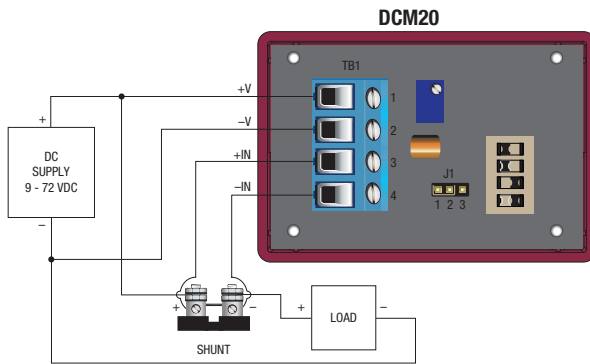

Figure 3. High-side current measurement, meter powered from DC line
- In figure 3, the current shunt is inserted into the load's positive supply line, which is known as high-side measurement. The DCM20 is also powered from this line. In this configuration the shorting block on jumper **J1** should be connected across pins J1-1 and J1-2. Because the meter is powered from the line being monitored, useful measurements can only be made on DC line voltages in the range of 9 - 72 VDC, as at lower voltages the meter will not be powered. In this configuration, the DCM20 measures the sum of both the load power and the power dissipated by the shunt.